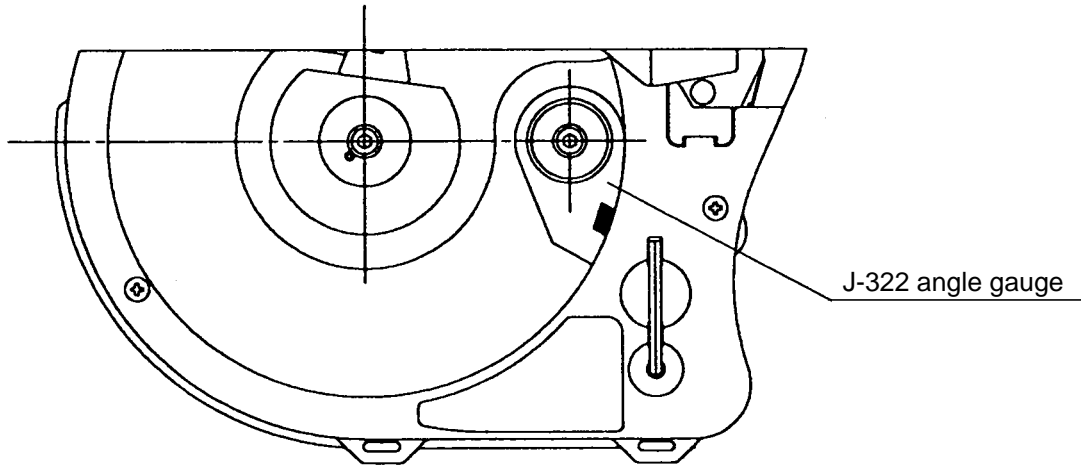

Fig. 29
(1) Adhering the angle gauge (Fig. 29)